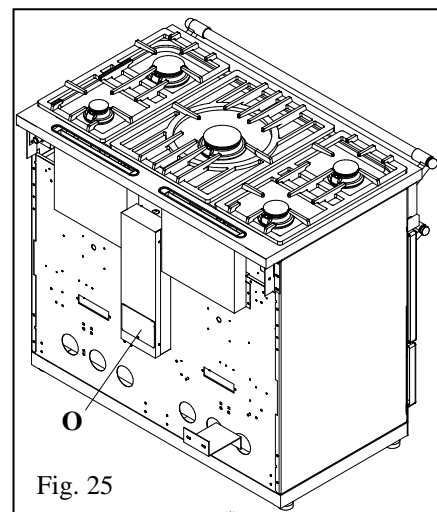

Fig. 25
- Remove access door **O** (Figure.25, gas only range) or **P** (Figure 26, gas and electric range).